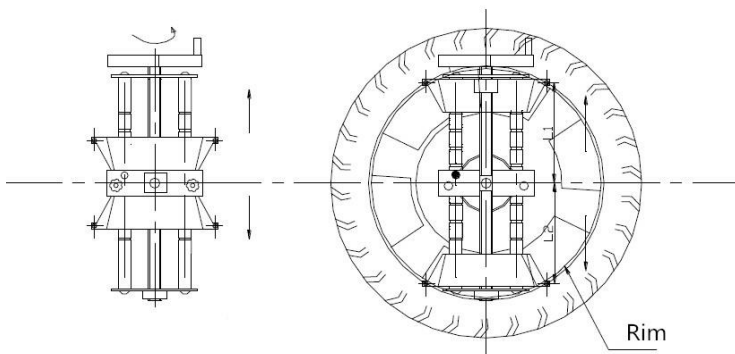

Figure 3.2-1 Fixture installation
- 1) Rotate the hand wheel to make the claws fit to the diameter of the rim. The installation direction of the clamp is shown in figure 3.2-1;